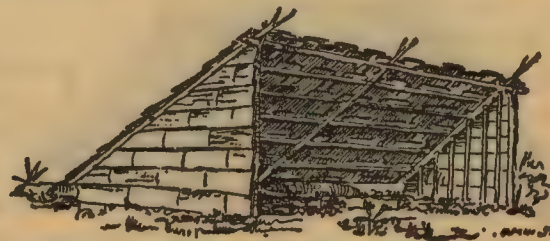

FIG. 57.
*The Bark Camp.*—This is the most common camp that is constructed (Fig. 57). Usually large pieces of bark are taken to form the sides and roof, as is shown in illustration. If the roof is steep the cross poles or rafters may be laid close together and the cover made of shingles. The top sides of the rafter should be flattened to make good nailing places.